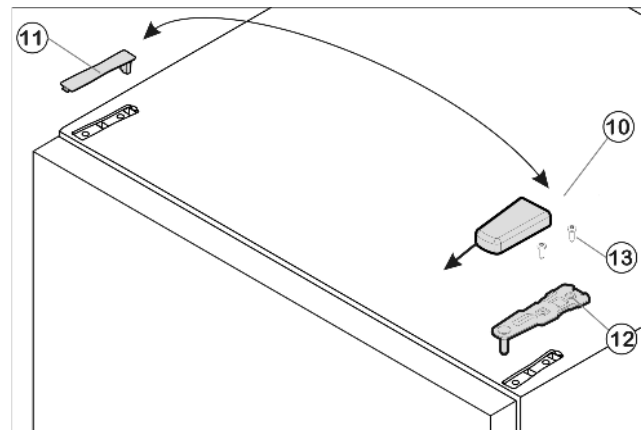

Fig. 17
► Pull cover *Fig. 17 (10)* forward and then upwards to remove.
► Lift off cover *Fig. 17 (11)*.
► Unscrew upper bearing bracket *Fig. 17 (12)* (2 x Torx 25) *Fig. 17 (13)* and pull it upwards to remove.
- Insert the upper bearing bracket Fig. 17 (12) on the new hinge side into the door.
- Oberen Lagerbock Fig. 17 (12) **fest mit 3 lb-ft (4 Nm)** anschrauben (2 mal Torx 25) Fig. 17 (13). Schraubblöcher evtl. vorstechen oder Akkuschrauber verwenden.
- Snap both cover Fig. 17 (10) and cover Fig. 17 (11) into place on the opposite side.